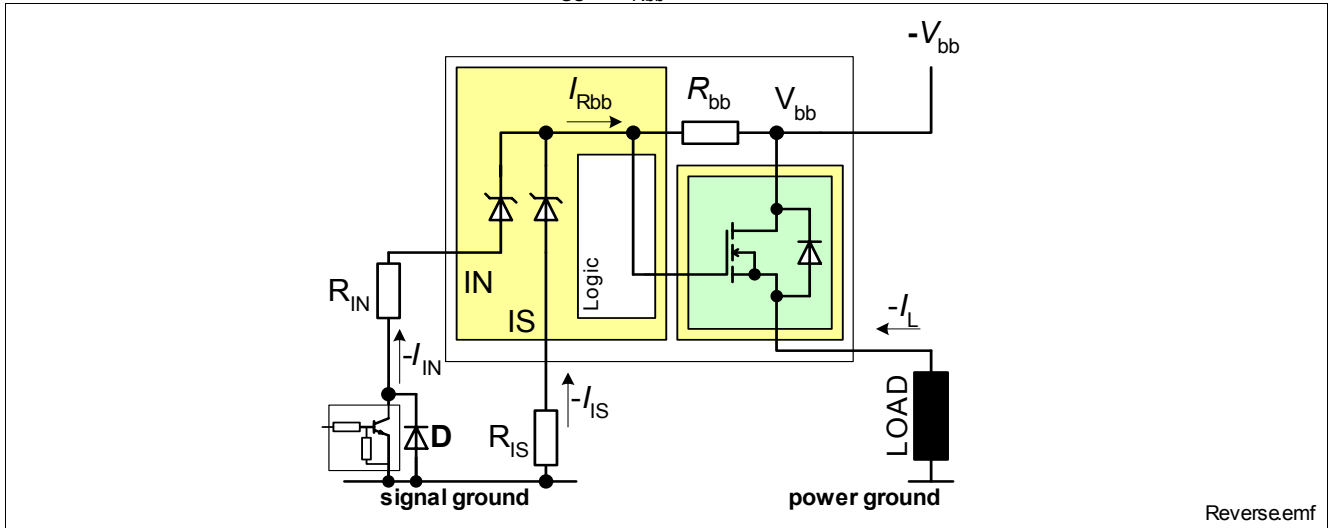

Figure 14 Reverse battery protection
- 4) Slew rate limitation can be achieved by means of using a series resistor for the small signal driver or in series in the input path. A series resistor R_{IN} in the input path is also required for reverse operation at $V_{bb} \leq -16\text{V}$. See also Figure 14.
The device can not block a current flow in reverse polarity condition. In order to minimize power dissipation, the device offers Reversafe® functionality. In reverse polarity condition the channel will be switched on provided a sufficient gate to source voltage is generated $V_{GS} \approx V_{Rbb}$. Please refer to Figure 14 for details.